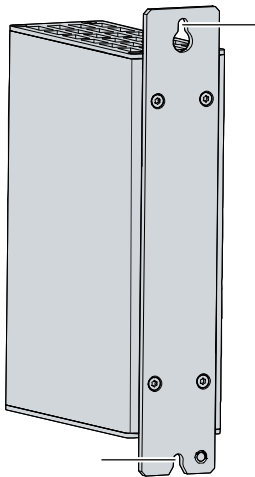

Fig. 11: Control cabinet installation
2. Hang the PC on the screws at the marked points of the mounting plate (see Fig. 11).